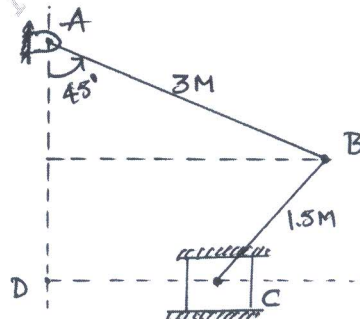

Fig.Q4(b)
- b. In the mechanism shown in Fig.Q4(b), the slider C is moving to the right with a velocity of 1 m/s and an acceleration of 2.5 m/s^2 . The dimensions of various links are $AB = 3\text{m}$ inclined at 45° with the vertical and $BC = 1.5\text{m}$ inclined at 45° with the horizontal. Determine: